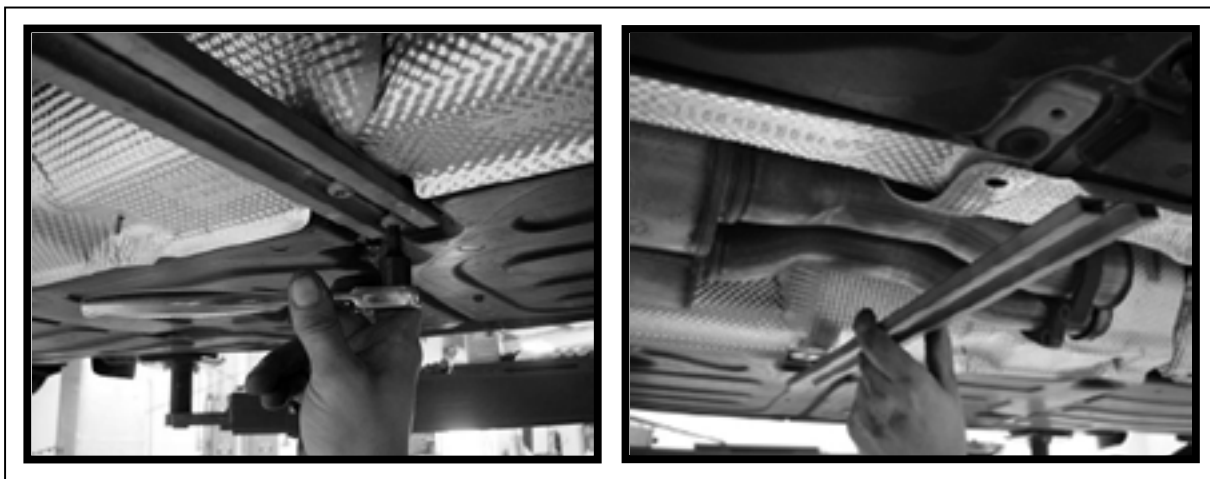

FIGURE 10-13
16.0 REMOVE DRIVESHAFT SAFETY BAR. (FIGURE 10-13)